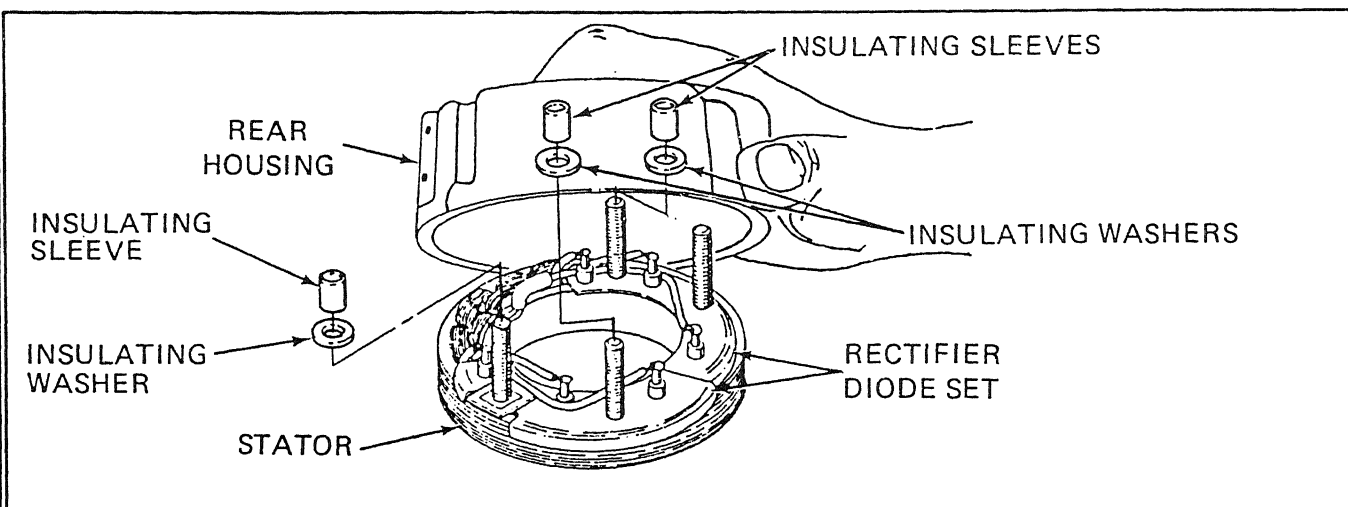

Figure 5-28.10. Rear Housing and Diode Terminal Separation
- (8) Carefully and evenly tap the rectifier diode terminal studs out of the rear housing, as shown in Figure 5-28.10. Lift rear housing off the studs. Remove any insulating sleeves remaining in terminal stud holes. The stator and diode sets are removed as an assembly.
- (9) Unsolder the stator leads from the rectifier diode terminals, in order to properly test each diode. Make note of the diode to stator connections for reassembly purposes later on.